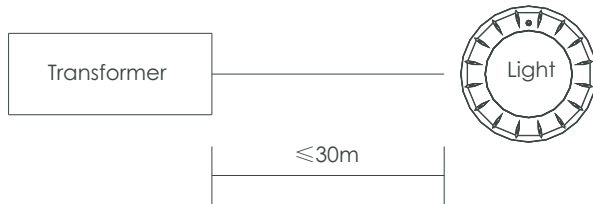

Figure 2
- 7) The cables connecting the lights and the transformers must be at least 6mm² and the distance between them must not exceed 30m (Figure 2); otherwise the lights will not function properly.